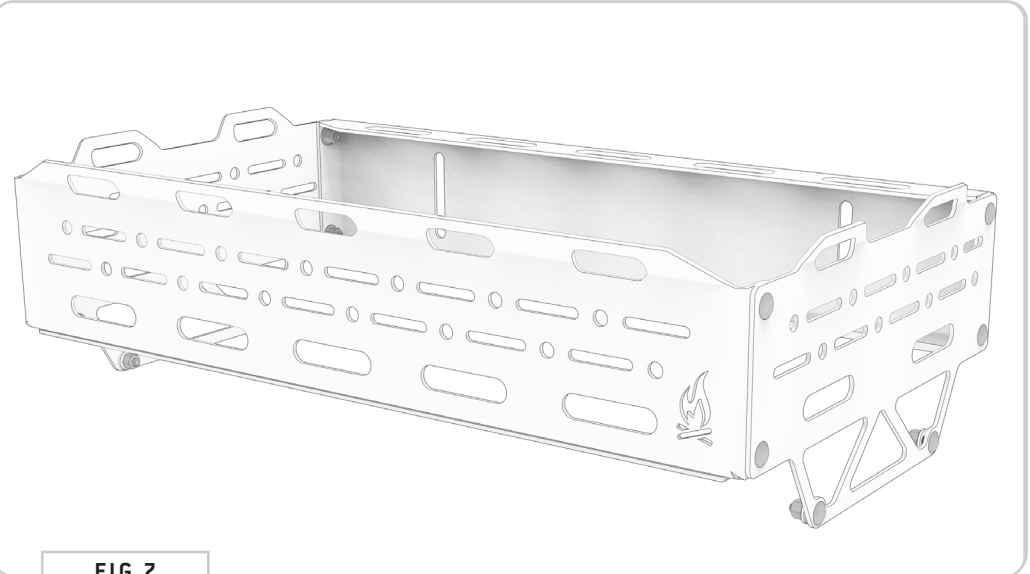

FIG 7
2.3 Attach Front Panel: Repeat previous step for the Front Panel (FIG 7).